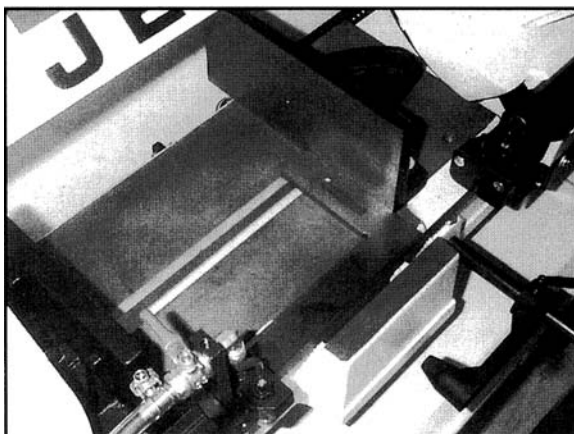

Figure 17
2. Place a machinist's square flush against vise and blade, as shown in Figure 17. Square should lie along the entire length of vise and blade without a gap.